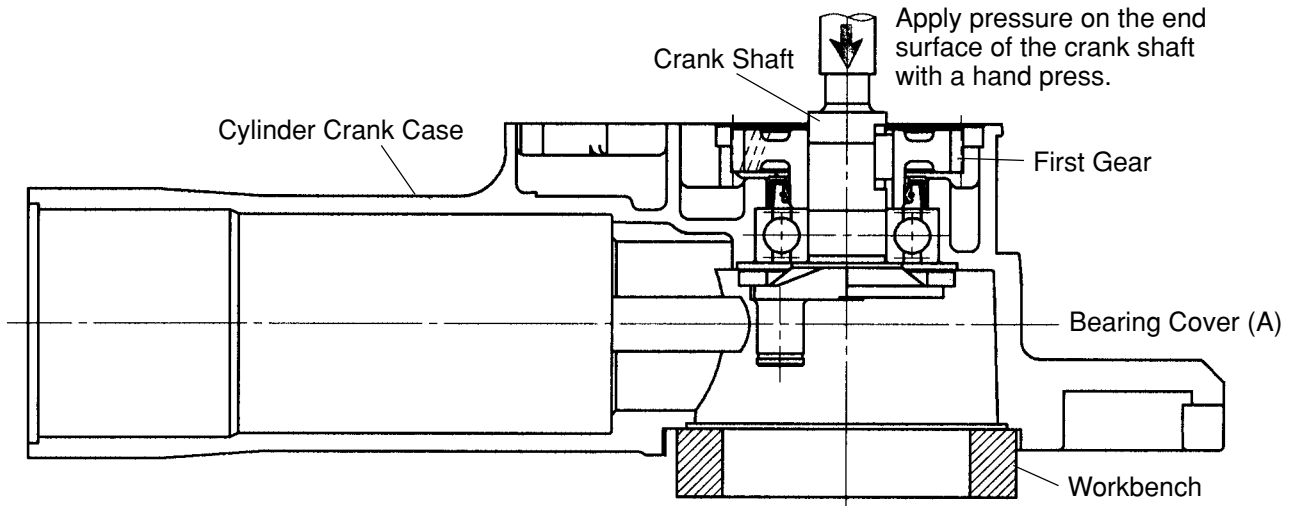

Fig. 14
Remove the grease from the Connecting Rod [34] side and the First Gear [53] side of the Cylinder Crank Case [48]. Remove the two Seal Lock Hex. Socket Flat Hd. Bolts M5 x 12 [44] fixing Bearing Cover (A) [45]. Then place the Connecting Rod [34] side of the Cylinder Crank Case [48] downward on a workbench and apply pressure on the end surface of the Crank Shaft [42] with a hand press to remove the First Gear [53] and the Crank Shaft [42] (Fig. 14). Before removing them, make sure that the two Seal Lock Hex. Socket Flat Hd. Bolts M5 x 12 [44] fixing Bearing Cover (A) [45] are removed.